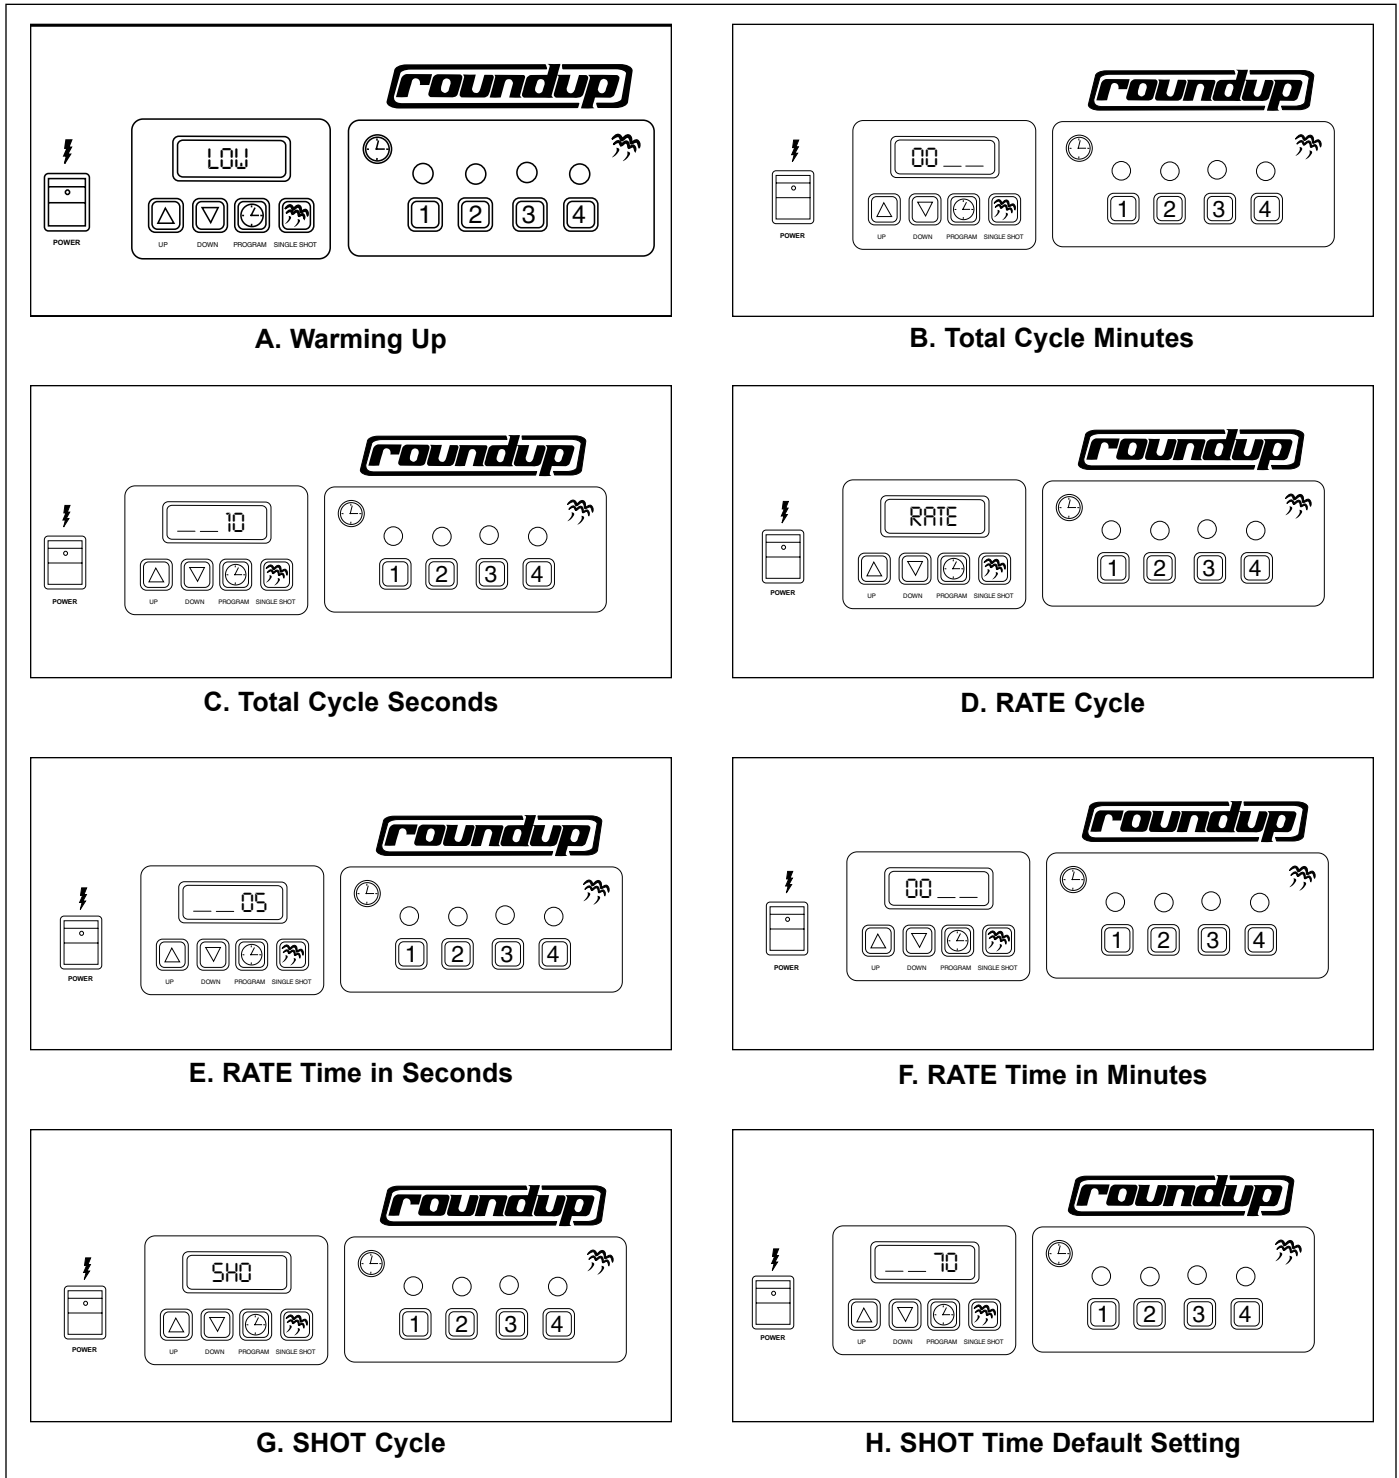

Figure 5. Control Programming Sequence
To program the control, refer to Figure 5 and use the following procedure in sequence:
2. Press the PROGRAM button (Figure 4) to change the control from OPERATION to PROGRAM mode. The default setting will appear in the display (Figure 5, Item A).
3. Press the UP or DOWN arrow buttons to change the total cycle time in minutes (Figure 5, Item B).
4. Press the PROGRAM button again, then use the UP or DOWN arrow buttons to change the total cycle time in seconds (Figure 5, Item C).
5. Press the PROGRAM button again, then Press both UP and DOWN arrow keys simultaneously. "RATE" will be displayed (Figure 5, Item D).
To change the RATE in minutes (Figure 5, Item E), press the PROGRAM button within 10 seconds of setting the seconds, then use the UP or DOWN arrow buttons to increase or decrease the time.
8. Press the PROGRAM button again and SHOT will be displayed (Figure 5, Item F).
9. Use the UP or DOWN arrow buttons to increase or decrease the time (Figure 5, Item G).